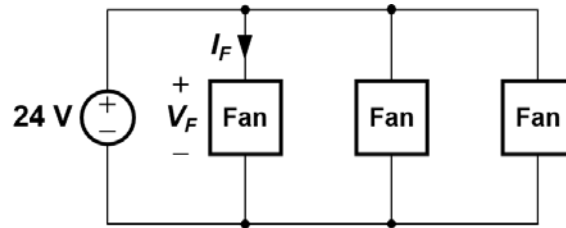

Fig. 9(a)
9. Fans are frequently needed to keep electronic circuits cool. They vary in size, power requirement, input voltage, and air-flow rate. In a particular application, three fans are connected in parallel to a 24-V source as shown in Fig. 9(a).